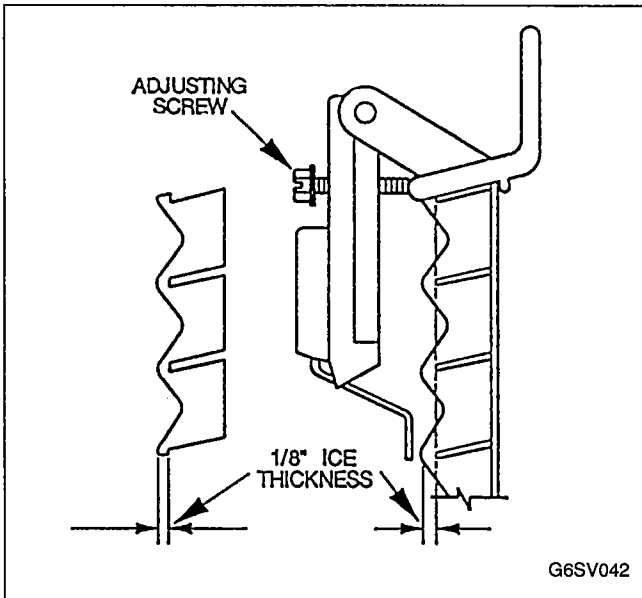

FIGURE 27. ICE THICKNESS CHECK
1. Turn adjustment screw (Figure 27) on ice thickness probe clockwise to increase thickness, counter-clockwise to decrease thickness.